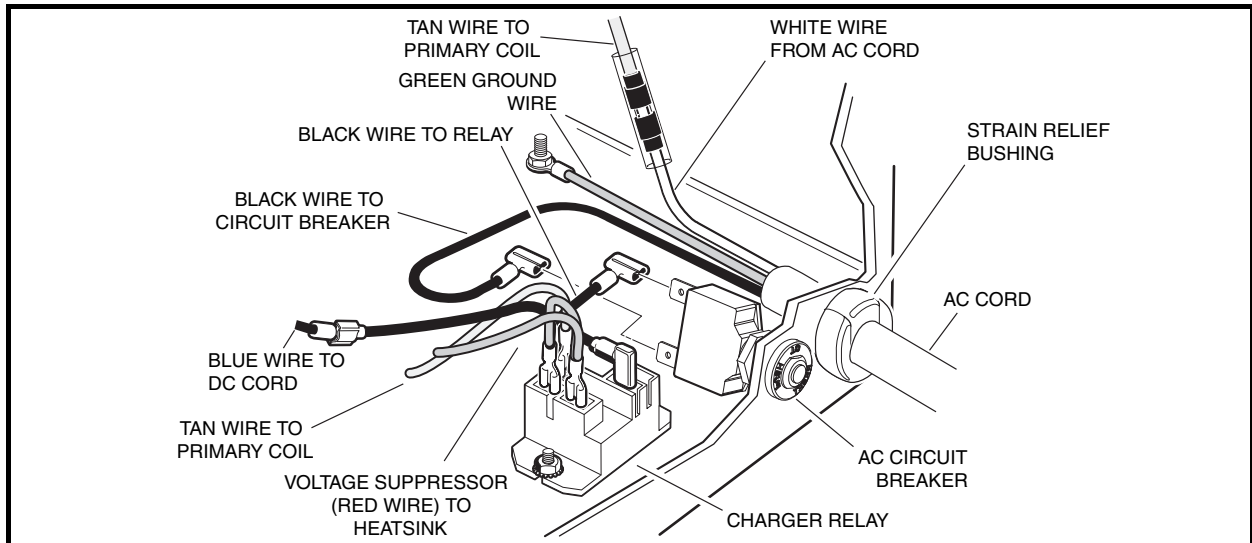

Figure 8-19 Charger Relay
3. Remove nut attaching voltage suppressor (18-gauge red wire) to heatsink (**Figure 8-19, Page 8-29**).
NOTE: The charger relay blade connector is located off-center within the relay housing. When connecting voltage suppressor slip-on connector to relay blade connector, make sure slip-on connector is positioned so that flat side of connector is closest to relay housing (**Figure 8-19, Page 8-29**).
3. Disconnect all wires from the relay (**Figure 8-19, Page 8-29**).
1. Install in reverse order of removal. Connect wires as shown (**Figure 8-19, Page 8-29**). Tighten nut securing relay to charger base to 18 in-lb (2.0 N·m).
3. Disconnect the two black wires attached to the AC circuit breaker (**Figure 8-19, Page 8-29**).
3. Disconnect the AC cord black wire from the AC circuit breaker (**Figure 8-19, Page 8-29**).
5. Disconnect the AC cord green wire from the charger base (**Figure 8-19, Page 8-29**).
1. Insert the black, white, and green leads of the new AC cord into the charger through the hole in the charger face (**Figure 8-19, Page 8-29**).